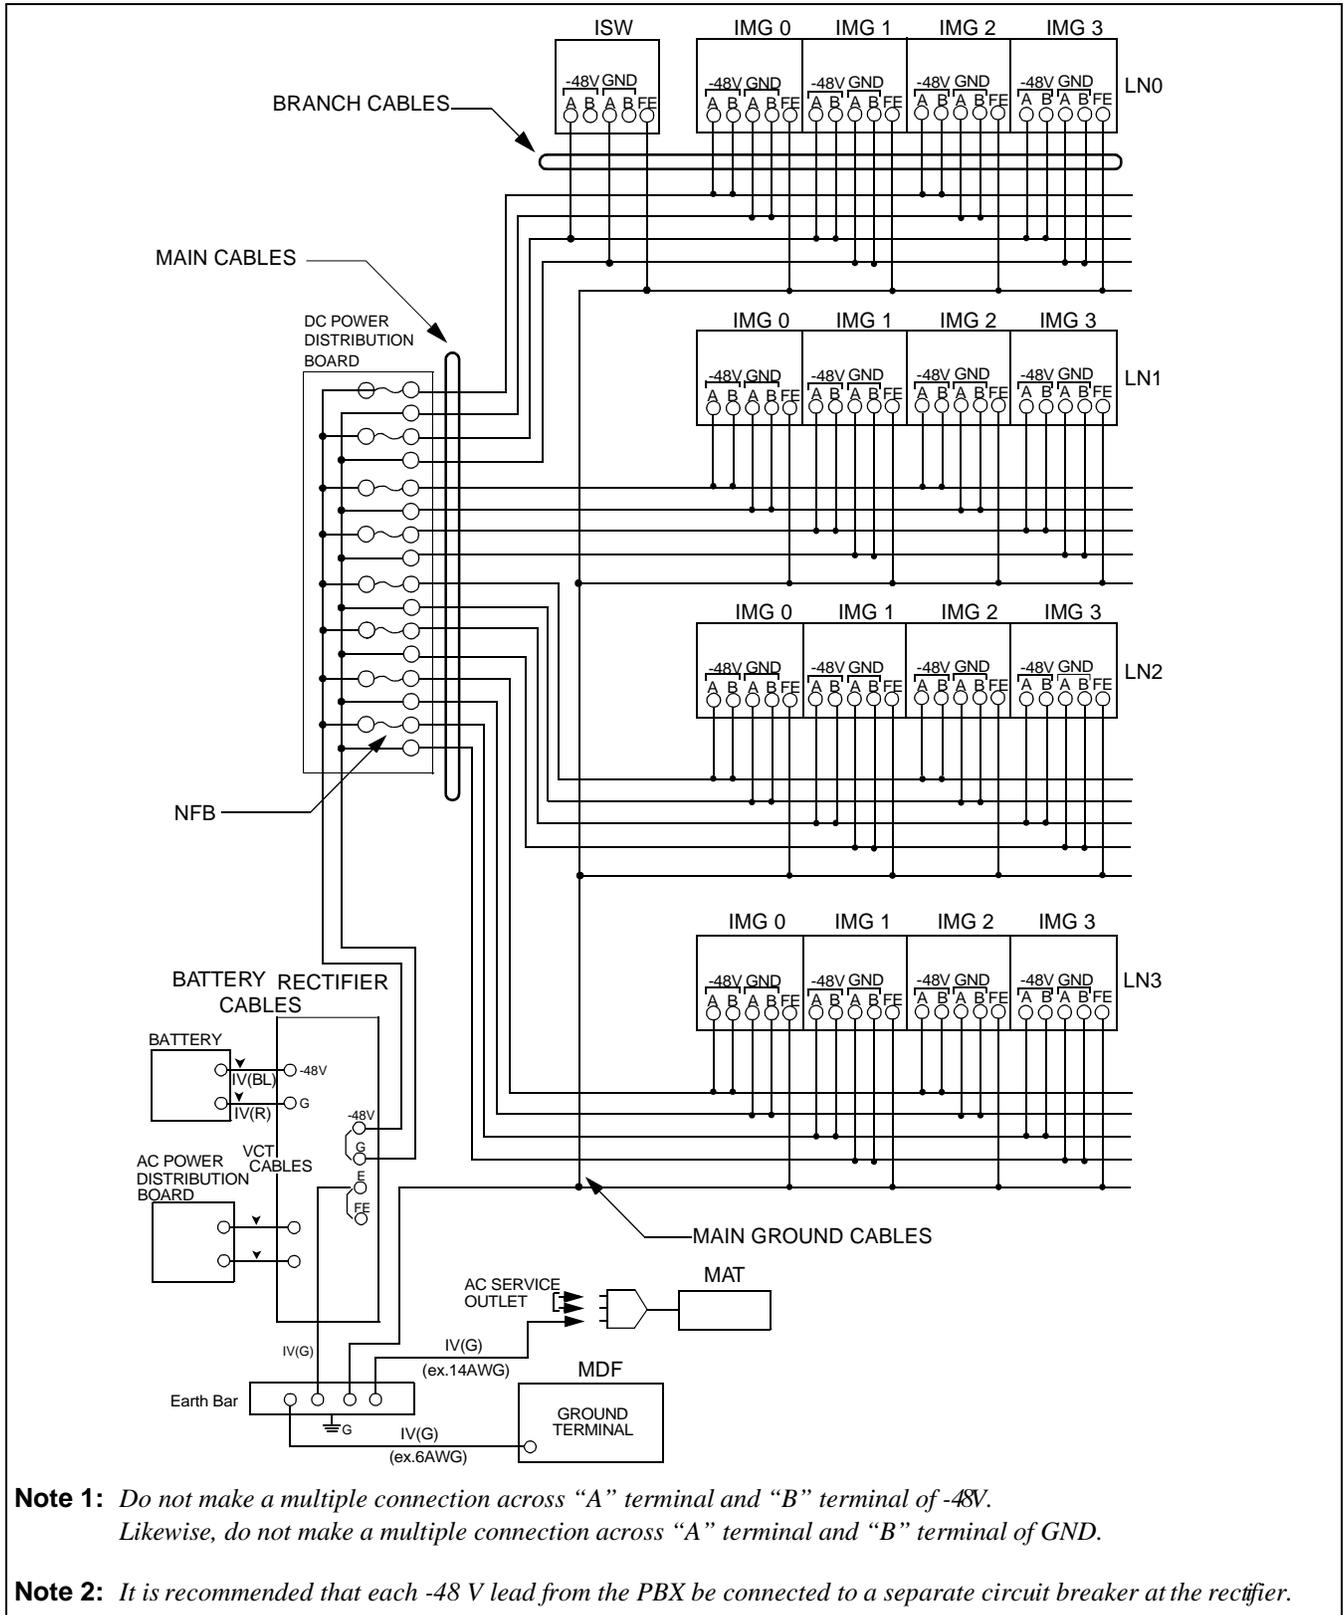

Figure 2-21 DC Main Power Cable and Main Ground Cable
3. For the main ground cable, an IV or CV cable of more than 14mm^2 (6 AWG) is to be used. (See Figure 2-21).